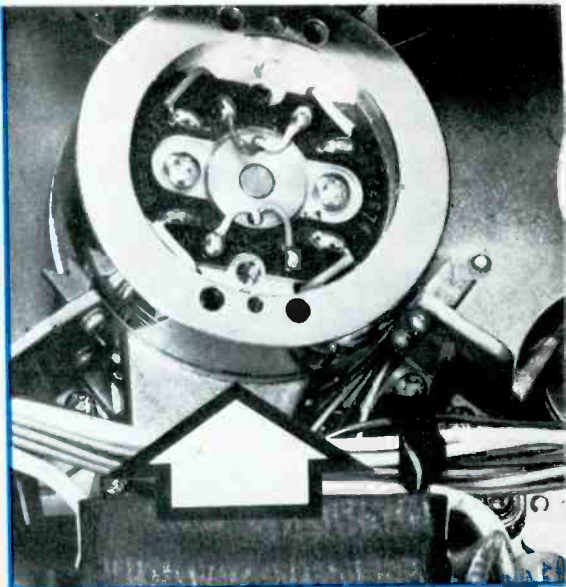

Figure 10. The large arrow identifies one video head in a VHS-type machine. (Photo courtesy of Nortronics.)
- In Figure 10, a large arrow iden-